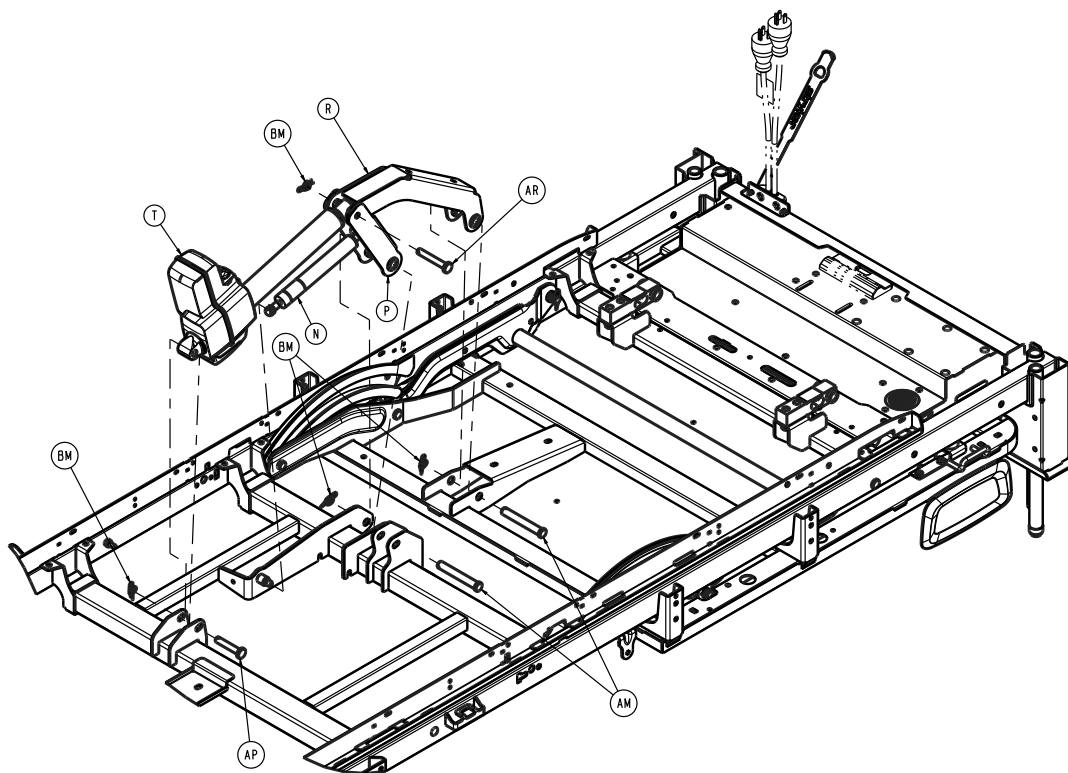

Figure 44 – Replacing the Fowler actuator
11. Using needle nose pliers, remove the two rue clips (BM) from the two clevis pins that secure the Fowler actuator (T) to the litter and the Fowler frame (Figure 44). Save the rue clips.
12. Support the actuator. Remove and save the two clevis pins (AP, AR) (Figure 44).